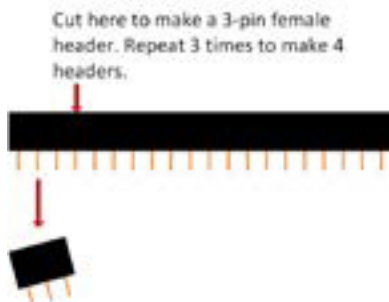

Figure HT3-6. Location to cut female header strip
4. Locate a strip of female headers used for parts J1, J2, J3, and J4. Use a pair of strong wire cutters to cut four 3-pin headers from this strip, as shown in Figure HT3-6. These become parts J1, J2, J3, and J4.
To yield a 3-pin header, the strip must be cut directly on top of the fourth pin, as shown in Figure HT3-6.